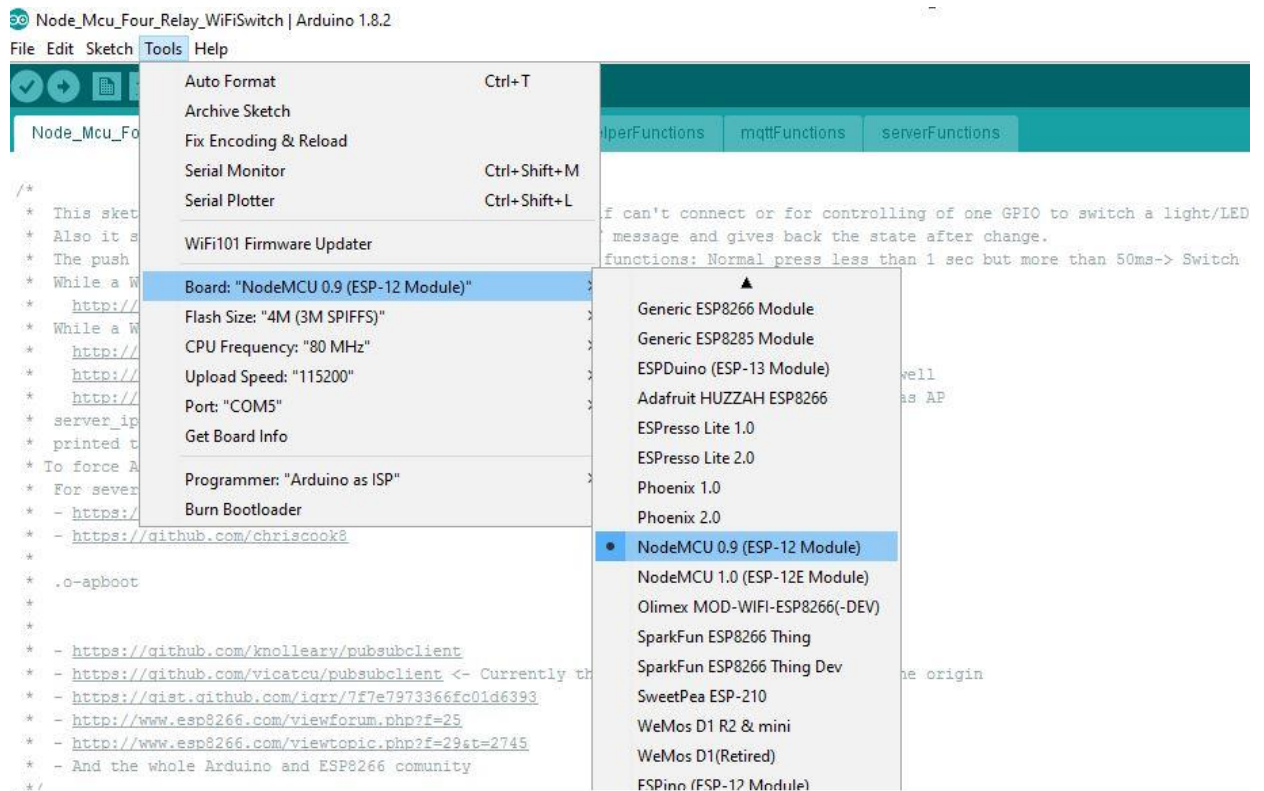

Figure 14: Board Selection
7. Click on Tools Tab, move mouse pointer on "Board: xxxxxxxxxx" and click on "NodeMCU0.9 (ESP-12 Module)" as shown in figure 14.